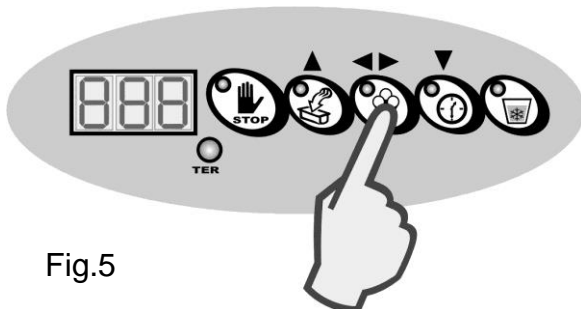

Fig.5
- Subsequently, press the Confirm key to start a new batch freezing cycle (fig. 5).